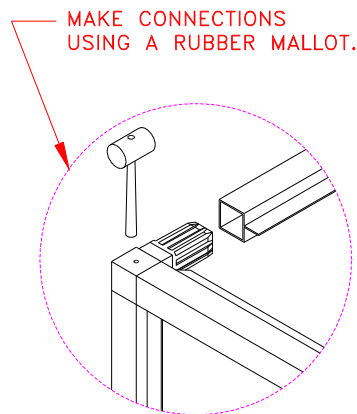

Fig. 13 Faraday Enclosure installation
3. Using a rubber mallet, hammer the front, rear tube onto the black corner connectors. (As show on Fig. 13).